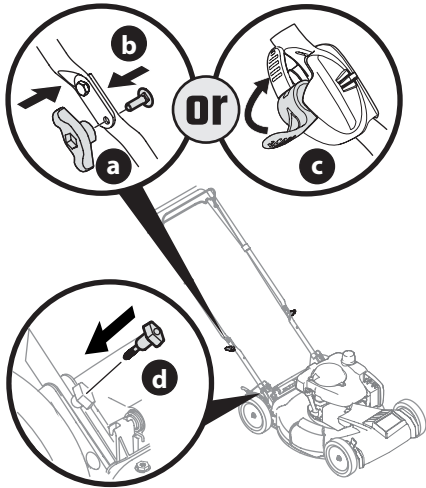

Figure 4
5. Reattach knobs or wing nuts (a) and carriage bolts (b) removed in STEP 1 into lower holes of the handle or lock the EZ-fold handle release levers (c) (Figure 4).
6. Insert the T-bolts (d) removed in STEP 2 through the handle brackets and lower handle (Figure 4) and tighten securely to secure the handle in place.